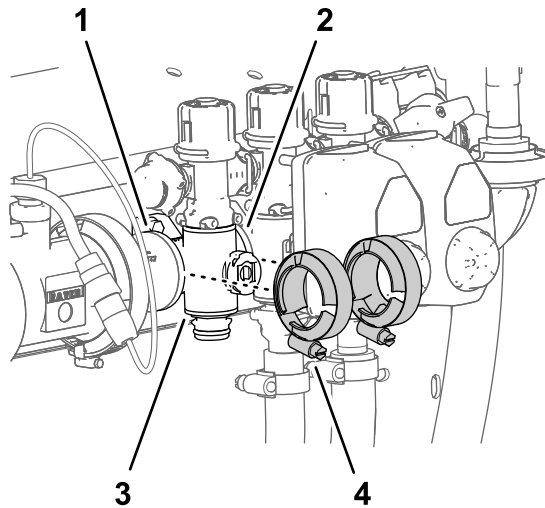

Figure 135
4. Loosely assemble the flange clamps that you removed in Removing the Section-Manifold Valve \(page 85\) to the flanges of the section-valve manifold and the flanges of the other section-valve (s) and/or coupling adapter (Figure 135).
- Tighten the 2 flange clamps by hand (Figure 135).